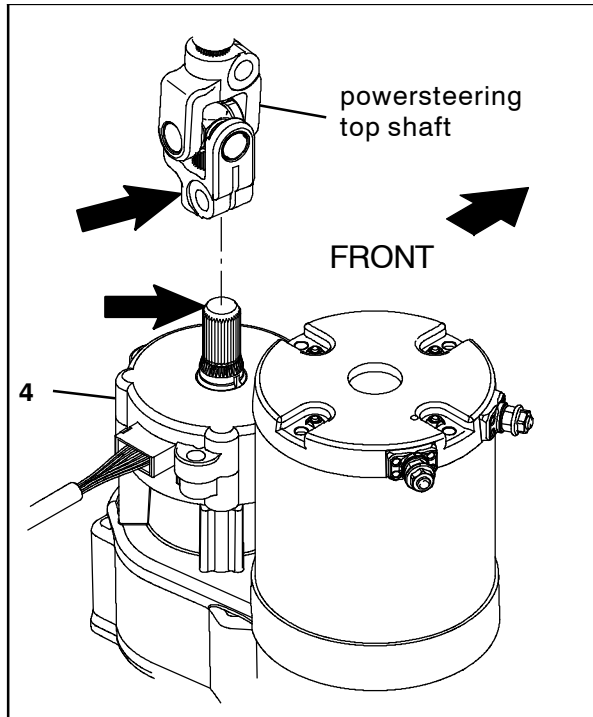

FIG. 13
6. Tighten hardware to secure the power steering motor (4) into the bottom of the power steering top shaft. Torque the SEMS M8 hex screws to 22 Nm (16 ft lbs). (Fig. 13)